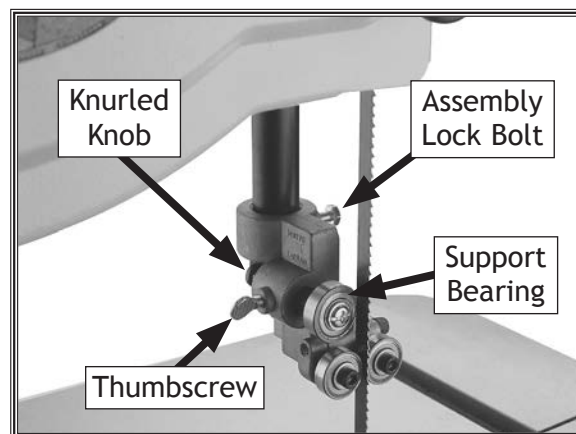

Figure 27. Blade support bearing controls.
3. Familiarize yourself with the blade support bearing controls shown in **Figure 27**.
7. Loosen the thumbscrew on the support bearing adjustment shaft (see **Figure 27**).